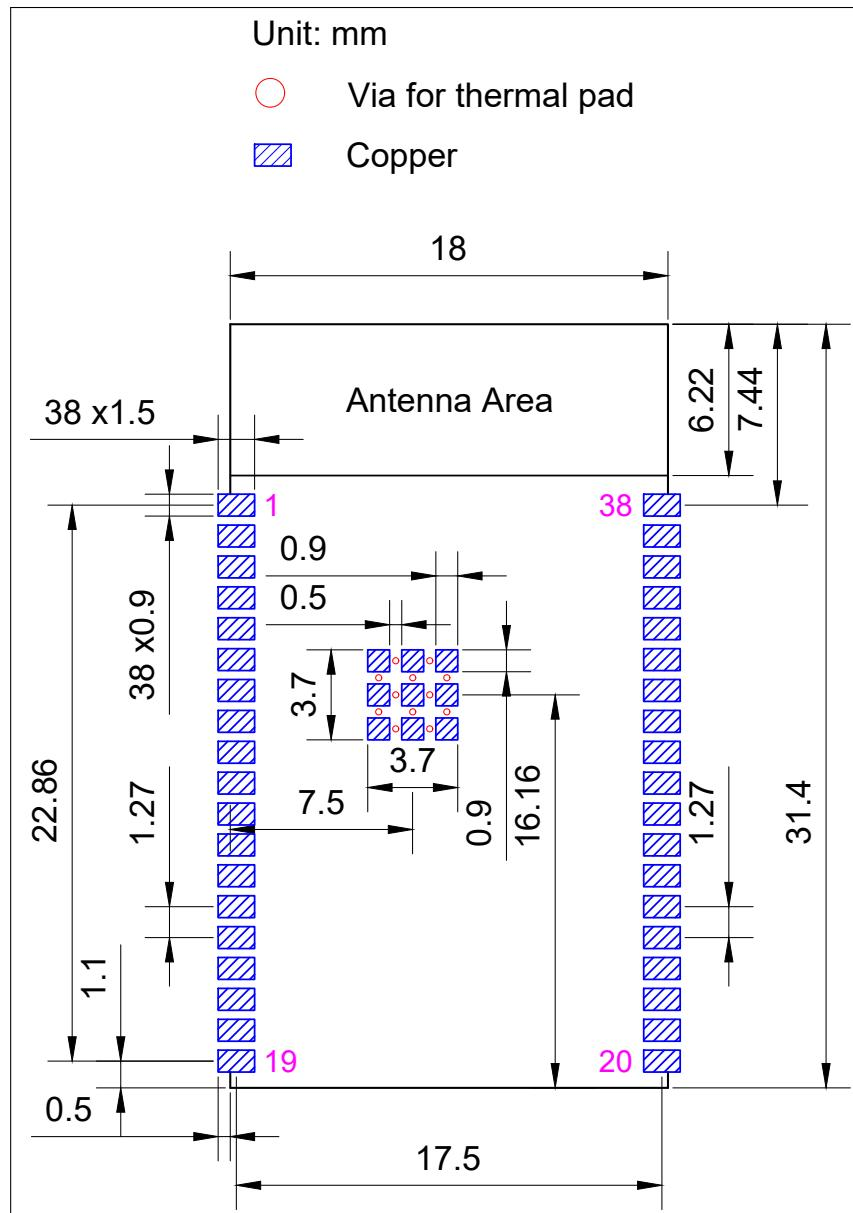

Figure 15: Recommended PCB Land Pattern
- Figures for recommended PCB land patterns with all the dimensions needed for PCB design. See Figure 15 Recommended PCB Land Pattern.
- Source files of recommended PCB land patterns to measure dimensions not covered in Figure 15. You can view the source files for ESP32-WROVER-E and ESP32-WROVER-IE with Autodesk Viewer.